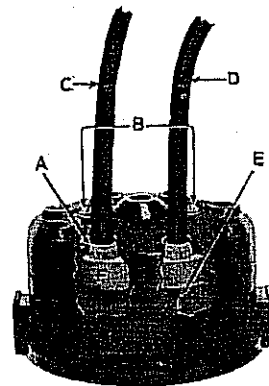

Figure 7
1. Check secondary wires in the distributor cap to make sure they are installed according to Operation 4 and Figure 7 in these instructions. Also check to make sure the main secondary wire is making good electrical contact in the secondary outlet of the coil or transformer.